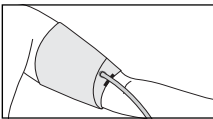

Fig.11
6. If the arm has a conic form, the cuff should be put on with a spiral movement as shown in the figure (fig. 11).